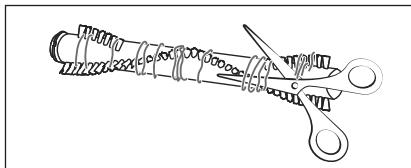

Fig. 31
- 4) Cut threads and hairs along the bristles of the rotary brush ②1 with scissors (see Fig. 31). Remove threads and hair from the rotary brush ②1.